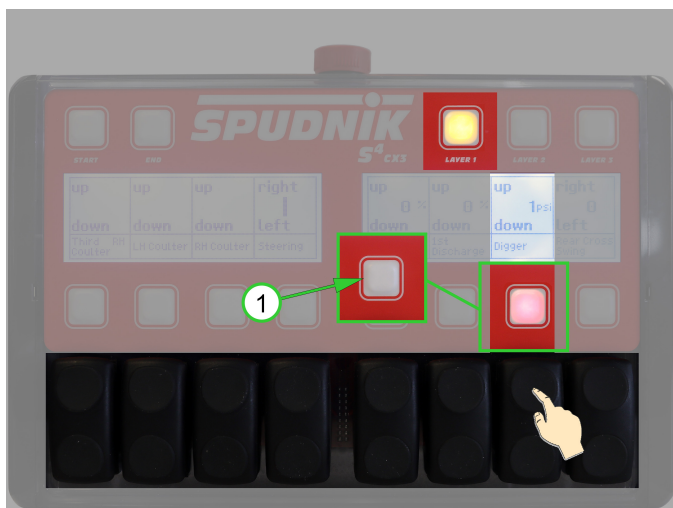

Figure 34
Press *LAYER 1* rocker switch 7 (*Digger*) up to raise the digger nose. The (1) soft key light turns off and the digger nose powers up for as long as the rocker switch is held. Upon releasing *LAYER 1* rocker switch 7 (*Digger*), the digger nose exits Ridge Relief. (See Figure 34)